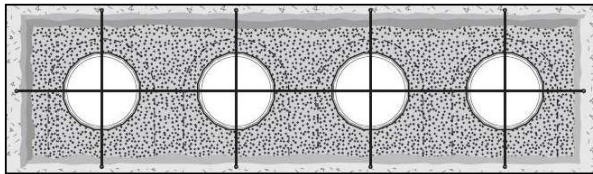

Figure 1
1. Install string lines at finished grade level (manhole grade level) across the length and width of the tank farm (as shown in Figure 1) in order to accurately measure the distance from grade level to the tank top.